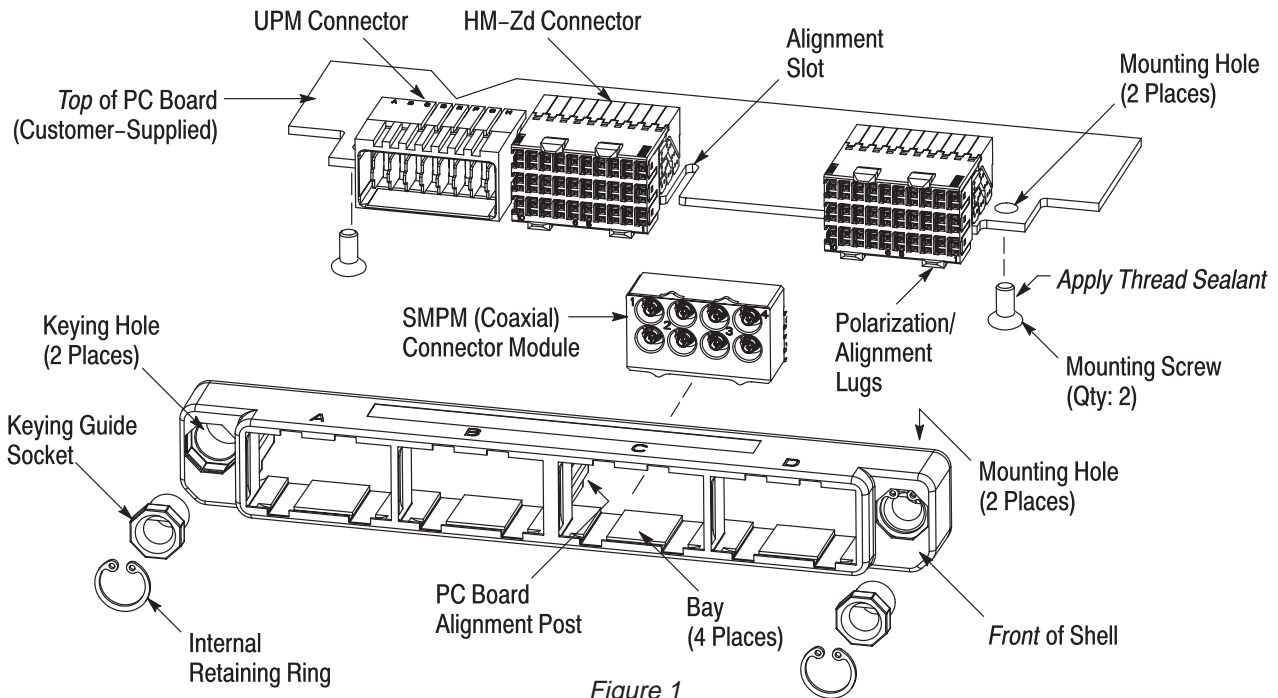

Figure 1
3.1. Daughter Card Connector Kit (Refer to Figure 1)